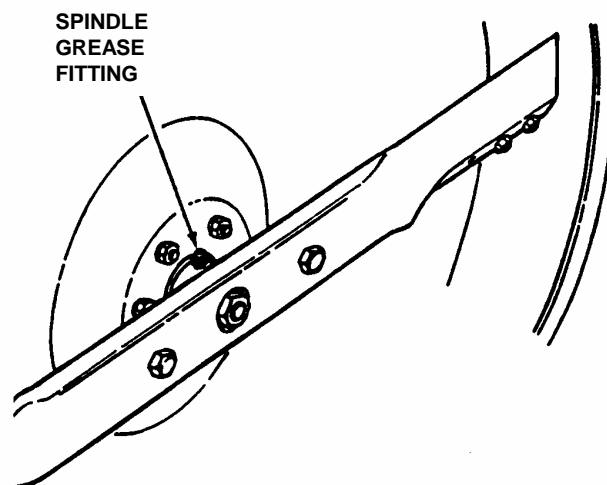

FIGURE 3.6
4. Lubricate spindle with three shots of general purpose grease from grease gun. See Figure 3.6.